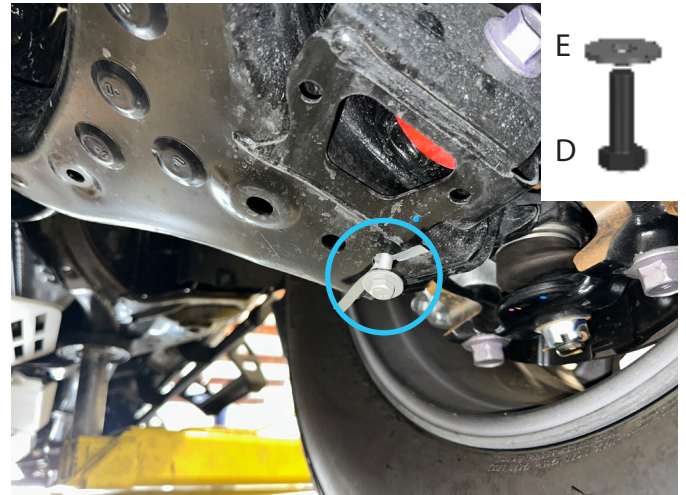

Fig.2
2. Insert M8x25 bolt (item D) with M8 washer (item E) as shown in Fig.2.